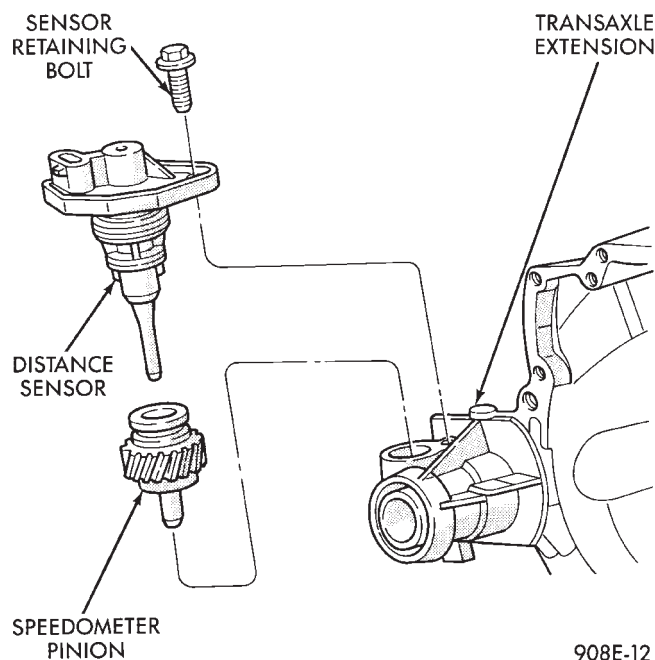

Fig. 7 Remove Distance Sensor
(13) Disconnect and remove vehicle distance sensor (Fig. 7).